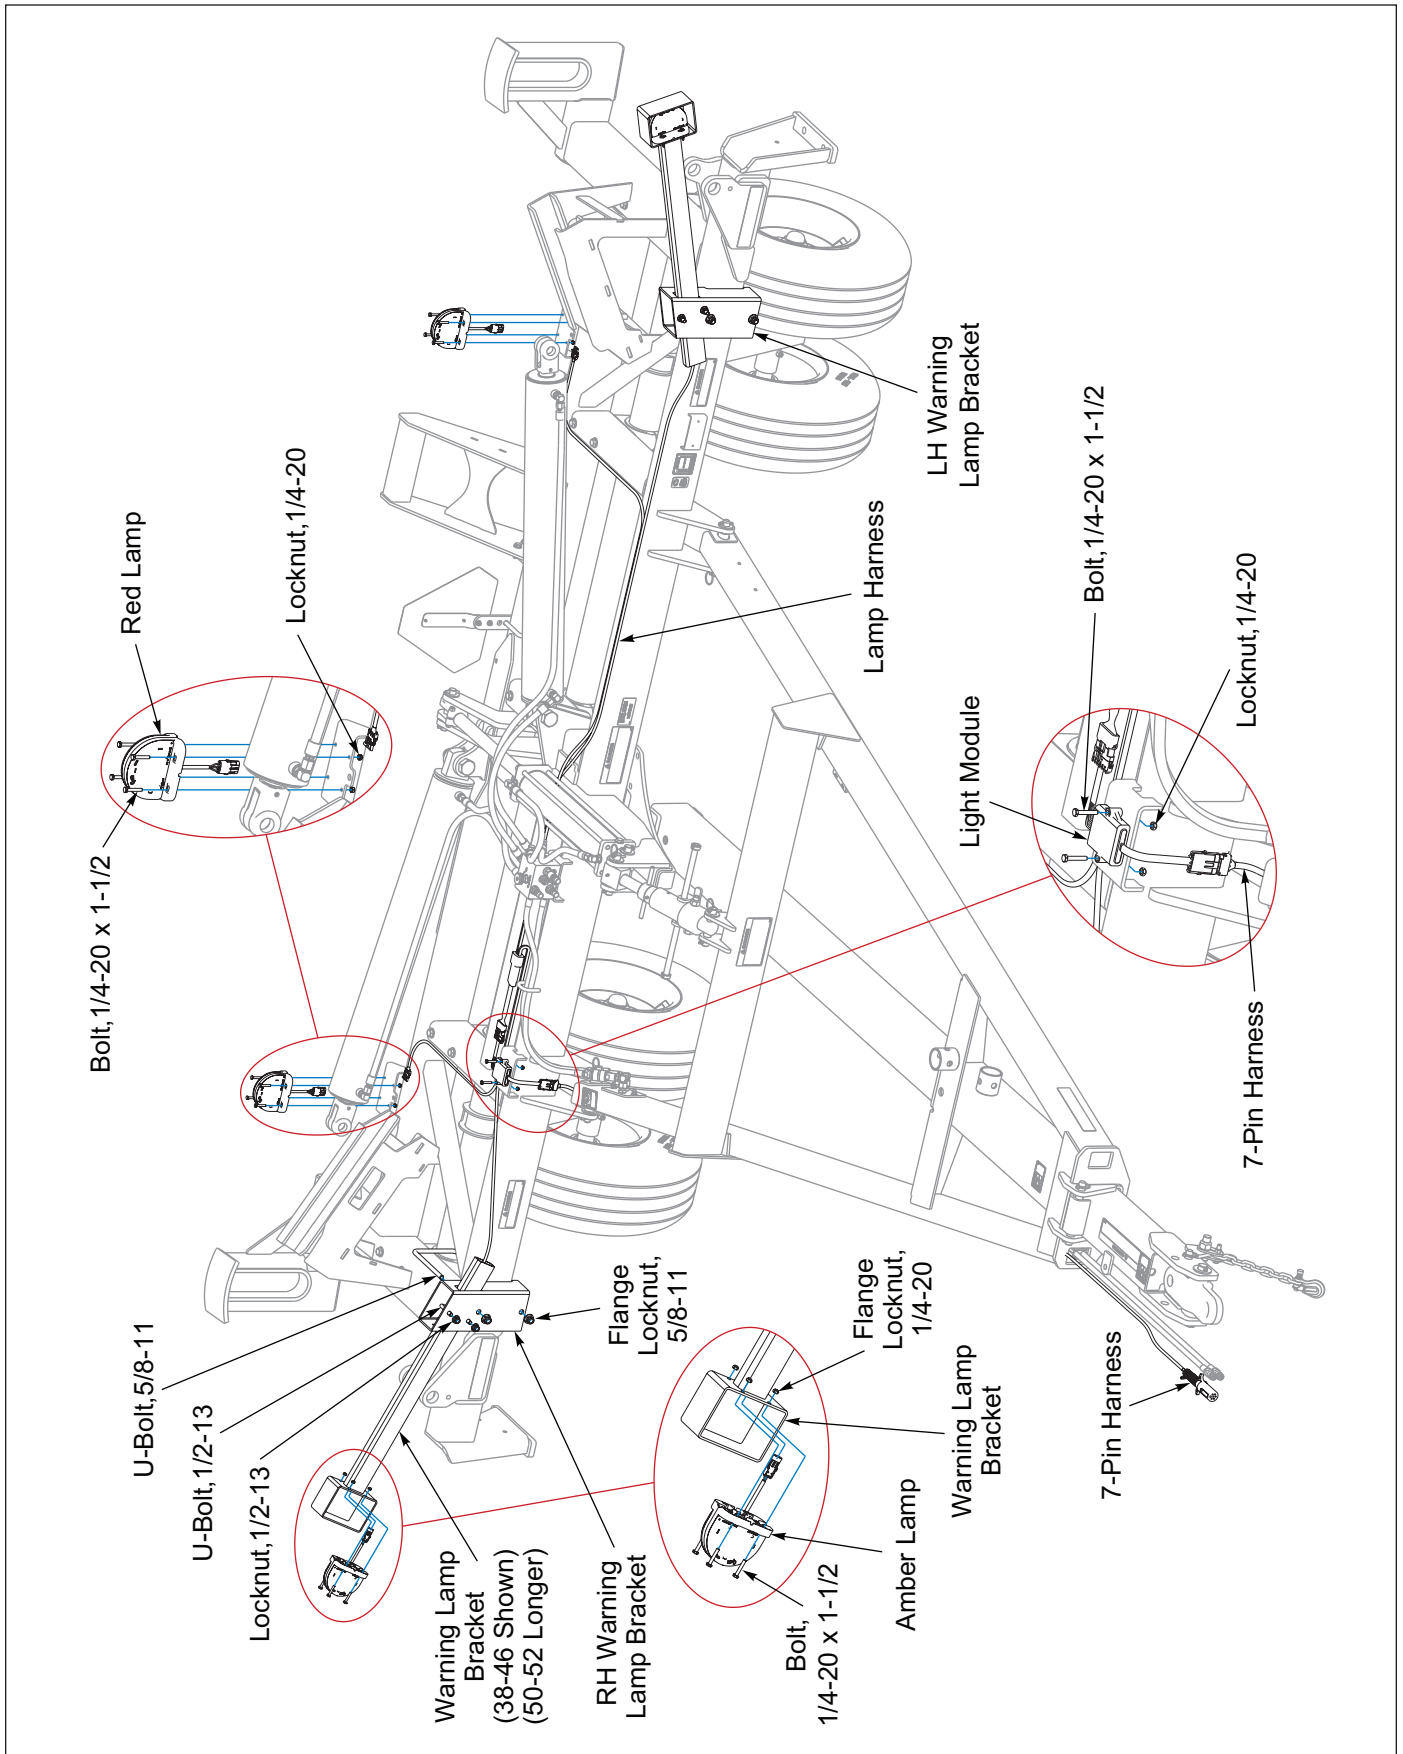

Figure 2-22: Warning Lamp Installation
1. Attach a Red Lamp with the Lamp Red Lens facing rearward to Light Brackets located on top of the rear frame tube, with 1/4-20 x 1-1/2 Bolts and Locknuts. **See Figure 2-22.**